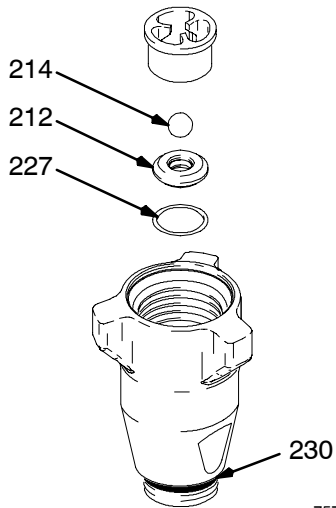

Fig. 23
Fig. 23. Reassemble intake valve with new o-rings (227) and (230), seat (212) and ball (214). Seat may be flipped over and used on other side. Clean seat thoroughly.